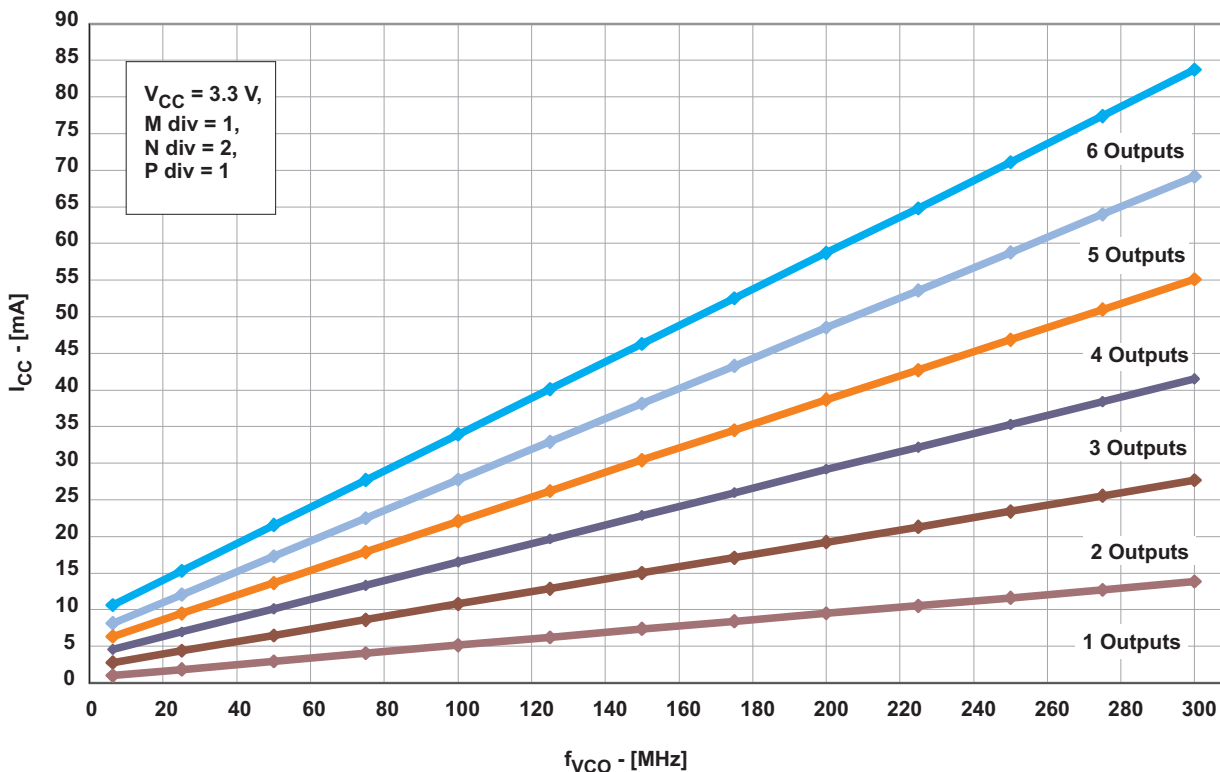

Figure 4. I_{CCOUT} vs Number of Outputs and VCO Frequency
(1) All typical values are at respective nominal V_{CC}.
(2) For calculating total supply current, add the current from Figure 2, Figure 3, and Figure 4. Using high-speed mode of the VCO reduces the current consumption. See Figure 3.
(3) Normal-speed mode or high-speed mode must be selected by the VCO frequency selection bit in Byte 6, Bit [7:5]. The min f_{VCO} can be lower but impacts jitter-performance.
(4) Do not exceed the maximum power dissipation of the 20-pin TSSOP package (600 mW at no air flow).